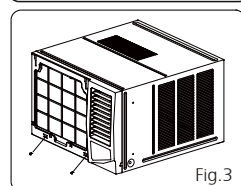

Fig.3
1. Remove two screws at the bottom of the frame. (See Fig. 3)